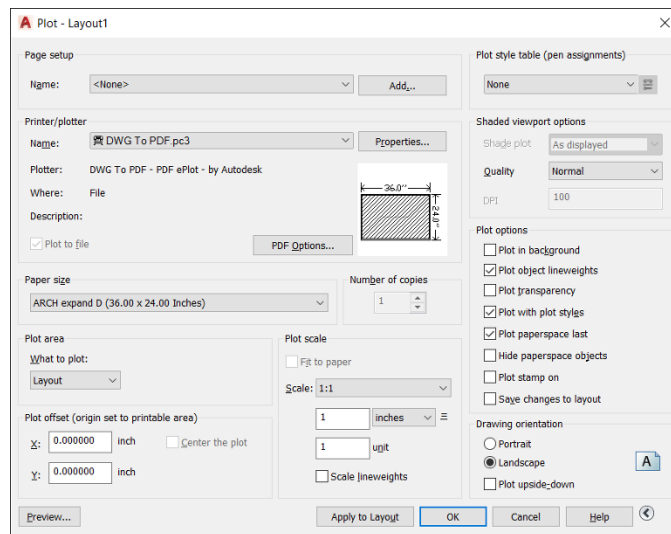

FIGURE 16-6: Settings for plotting a paper space layout.
The Plot dialog box appears with the name of the layout to be plotted displayed on the title bar. In Figure 16-6, I'm plotting a layout named D-Size Layout.
5. In the What to Plot drop-down list, choose Layout, as shown in Figure 16-6.
7. In the Plot Scale area, select 1:1 from the Scale drop-down list, as shown in Figure 16-6.
One primary advantage of using layouts is that you don't need to know about drawing scale in order to plot the drawing — hence the name *paper space*. Figure 16-6 shows the proper settings for plotting a layout.